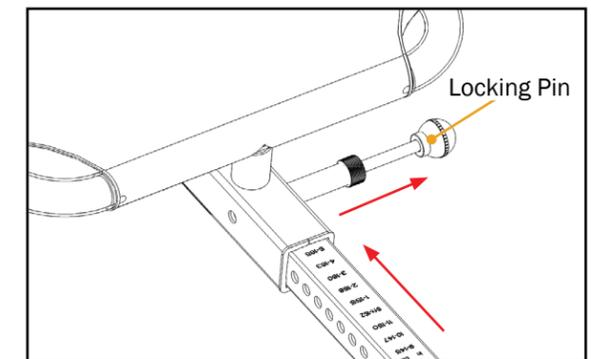

Figure 9
- Pull out the height selector locking pin to allow the Main Shaft to slide in further (Figure 9). For the purpose of easy assembly, slide in the Main Shaft and release the pin in the last height setting (Refer to the Owner's Manual for proper height adjustment before use).